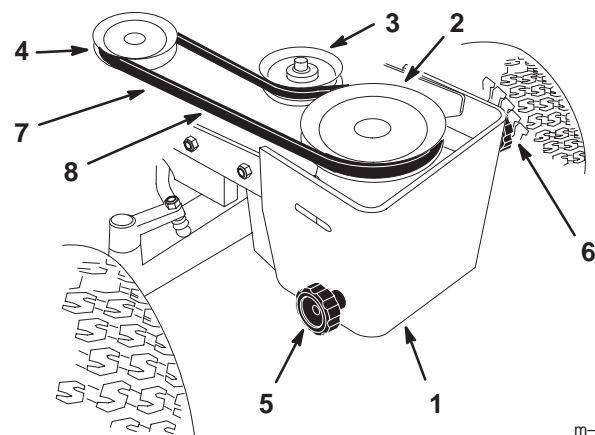

Figure 21
- Turn the left (upper) knob on the front pulley box to loosen the PTO drive belt (Fig. 21).
- Remove the PTO belt from the clutch pulley (Fig. 21).
- Remove the PTO belt from the upper pulley and upper idler pulley in the pulley box (Fig. 21).
- Install the PTO new belt onto the clutch pulley (Fig. 21).
- Install the PTO belt onto the upper pulley and upper idler pulley in the pulley box (Fig. 21).
- Turn the left (upper) knob on the front pulley box to tighten the PTO drive belt (Fig. 21). There needs to be a 1/2 inch (13 mm) deflection in the belt.